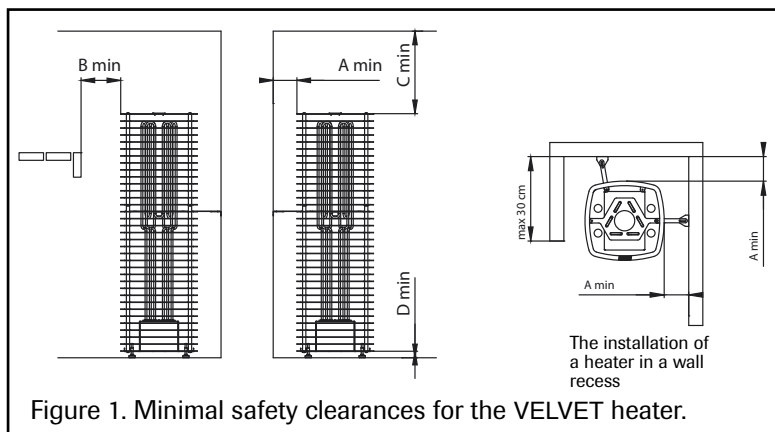

Figure 1. Minimal safety clearances for the VELVET heater.
\*\*) See figure 1
- The heater can also be installed into a wall recess, see figure 1.